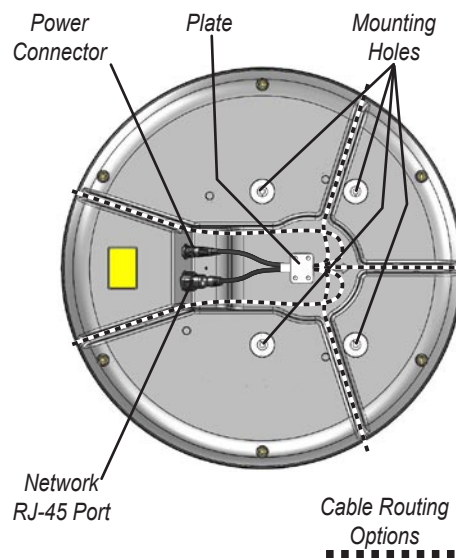

Figure 2
3. Align the notch and locking ring on the power cable to the power connector. Press the 2-pin power cable to the power connector and the RJ-45 marine network cable to the RJ-45 socket (Figure 2). Turn the power cable locking ring clockwise until it stops. Tighten the RJ-45 locking ring clockwise until it is firmly sealed.
4. The power/network cable may be pressed into one of the five guide grooves molded into the bottom of the scanner case and secured under the cable hold-down plate (Figure 2). Avoid excessive bending or twisting of the cable. See the following "Cable Runs" section for more information.